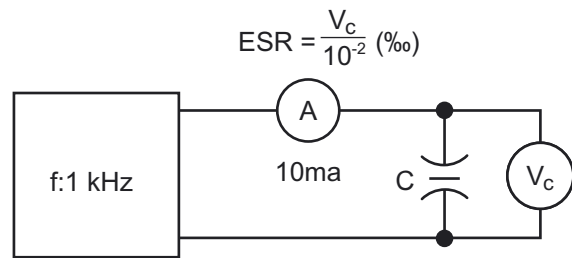

Figure 3. Equivalent Series Resistance (ESR)
- i. Calculate capacitance in farads using the equation in Figure 3.
ESR in ohms can be measured using the test circuit in Figure 3: